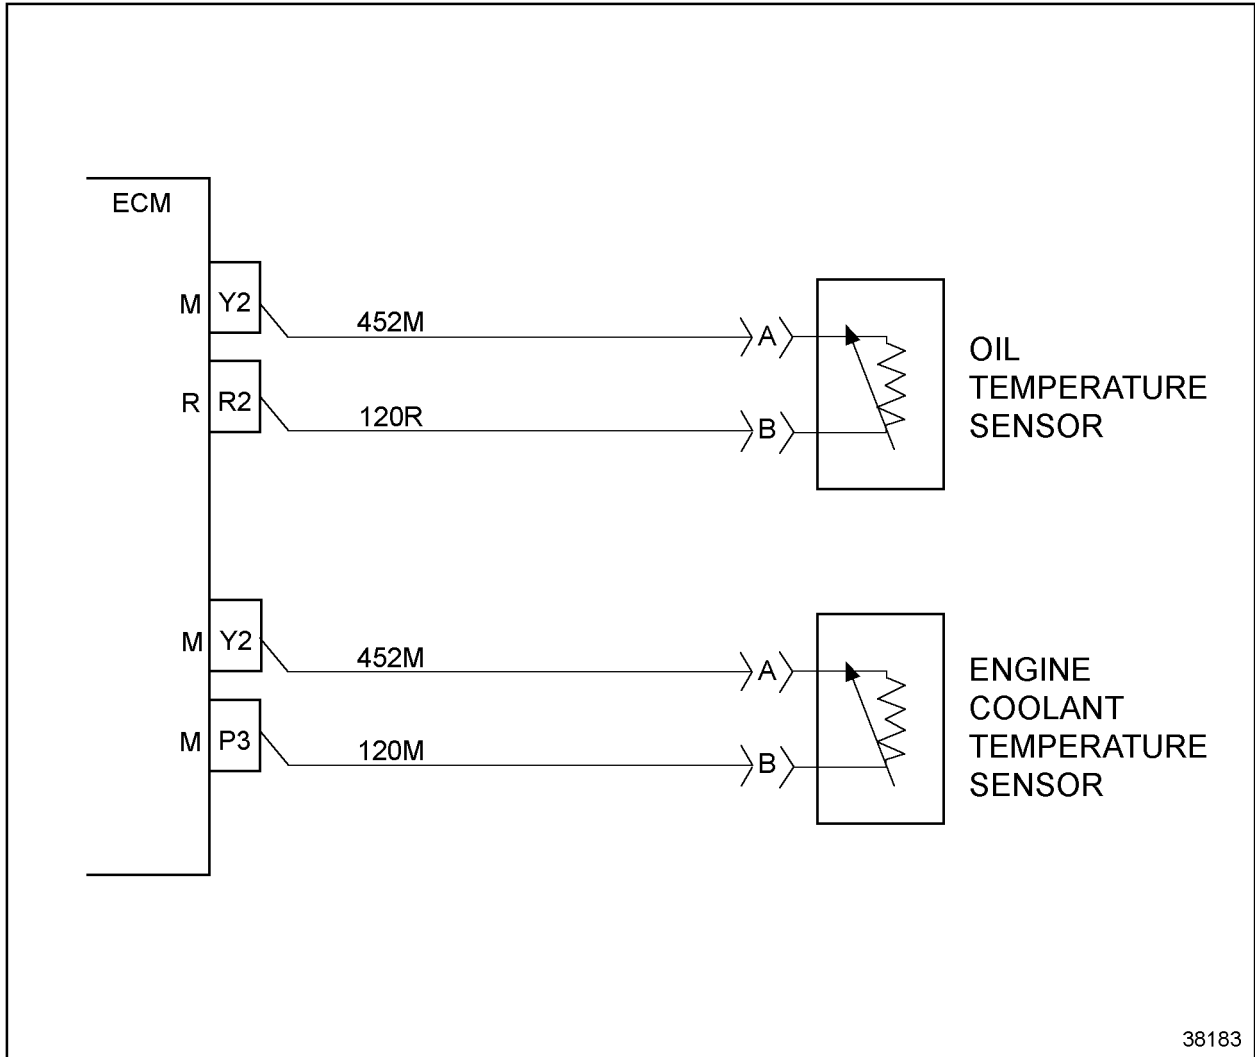

Figure 14-5 Temperature Sensor Circuits
1. Check terminals at the CTS connector (both sensor and harness side) for damage; bent, corroded and unseated pins or sockets. See Figure 14-5.